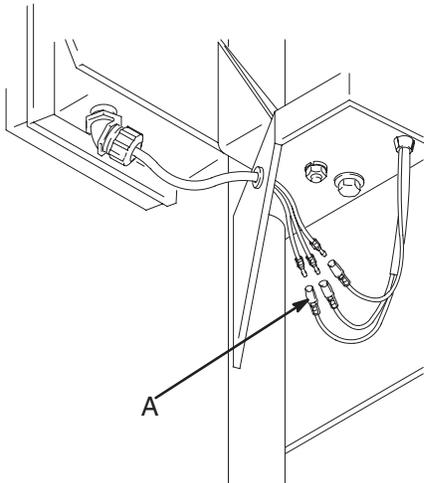

Fig. 21
3. Working under the cart, disconnect the wires (A). See Fig. 21.